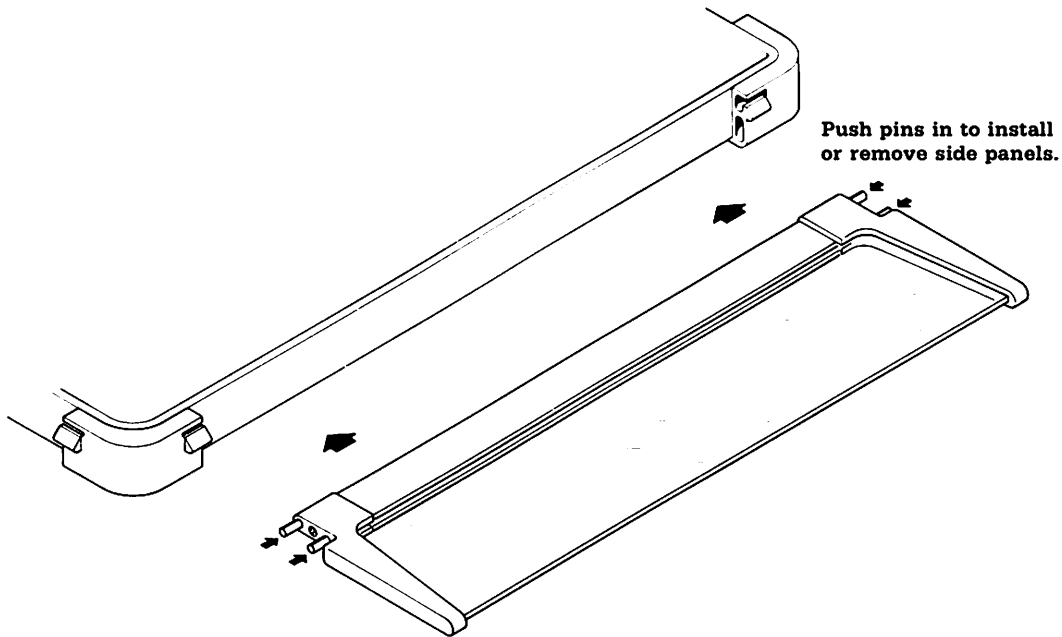

Figure 5-10. Side Panel Operation.
A. Side Panel Replacement (Figure 5-10)